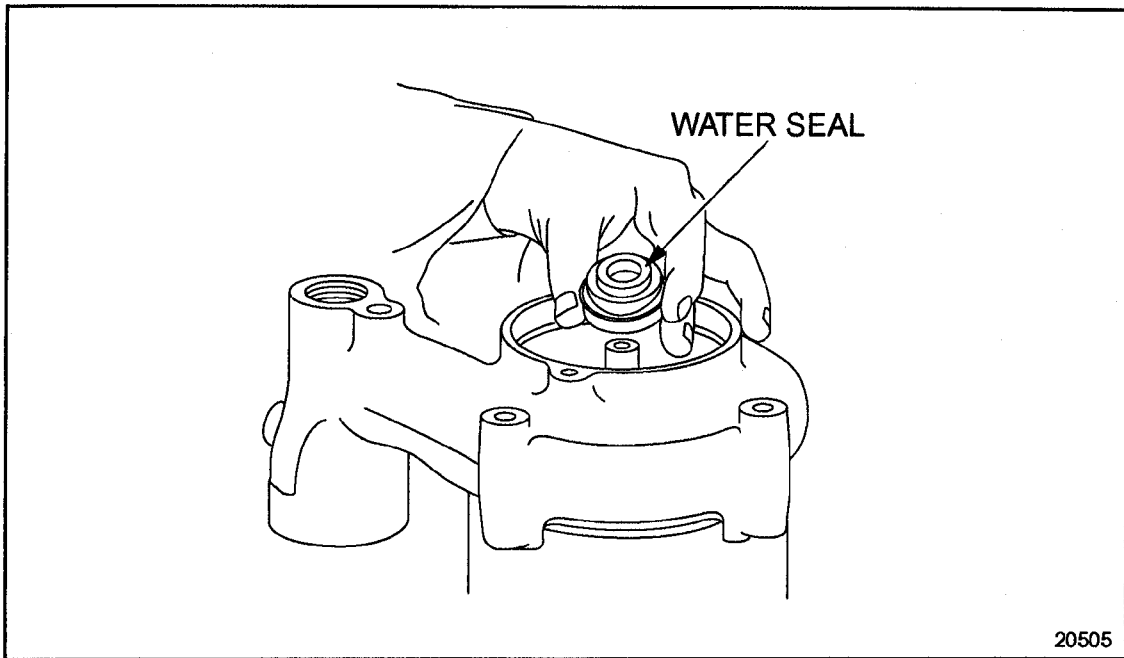

Figure 4-57 Water Seal Insertion (FM)
16. Install a new water seal over the drive shaft and seat it in the water pump housing. See Figure 4-57.